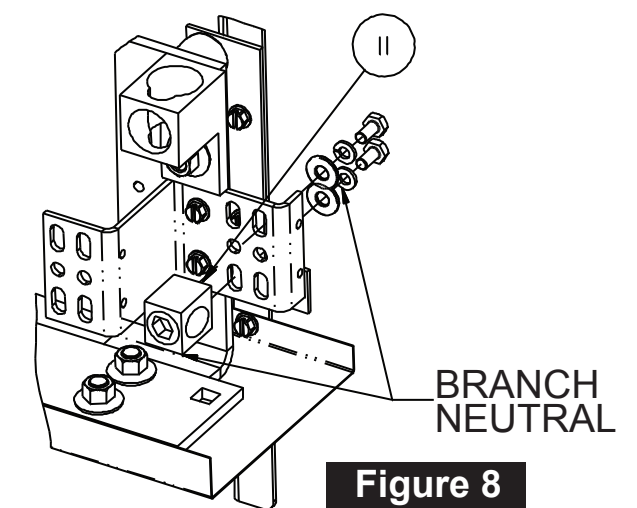

Figure 8
NOTE: Two types of neutral lug assemblies are included in this kit; be sure to install the correct one. For Switchboard applications, skip to Step 10 and use the lug assembly shown in Figure 9. For Panelboard applications, proceed to Step 9 below & use the lug assembly shown in Figure 8.
9. Refer to Figure 8: Installing the Branch Neutral Lug (Item 11) in a panelboard. The Branch Neutral is located at the bottom of the Z-rails (or mirrored at the top depending upon the cable feed location) and can be mounted on either side of the Branch Neutral depending on cable feed location. Torque all hardware as specified on the rear of the deadfront.